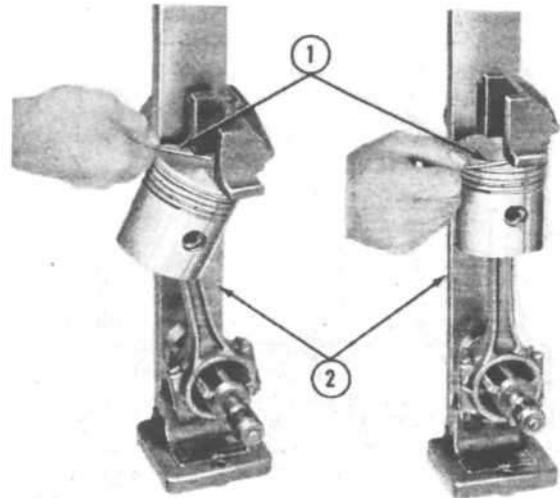

FIG. 41—CHECKING PISTON AND CONNECTING ROD ALIGNMENT
- f. Place piston and rod assembly in a fixture and check alignment of the assembly as shown in Fig. 41. Follow instructions furnished with the fixture.